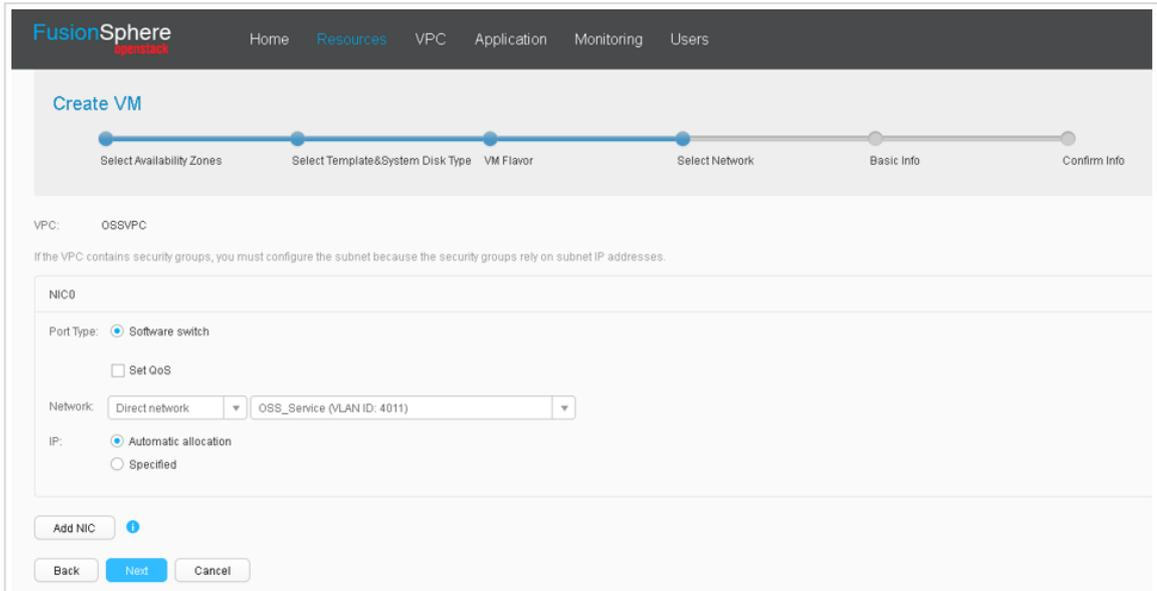

Figure 5-3 Adding a NIC
- Add a network interface card (NIC) for the VM, and click Next, as shown in Figure 5-3. The actual network may not be a direct network.